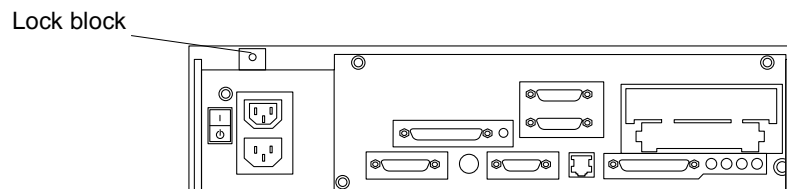

Figure 3-19 Backpanel Lock Block
5. Replace the lock block and use a Phillips screwdriver to tighten the screw that secures the lock block to the cover (Figure 3-19).